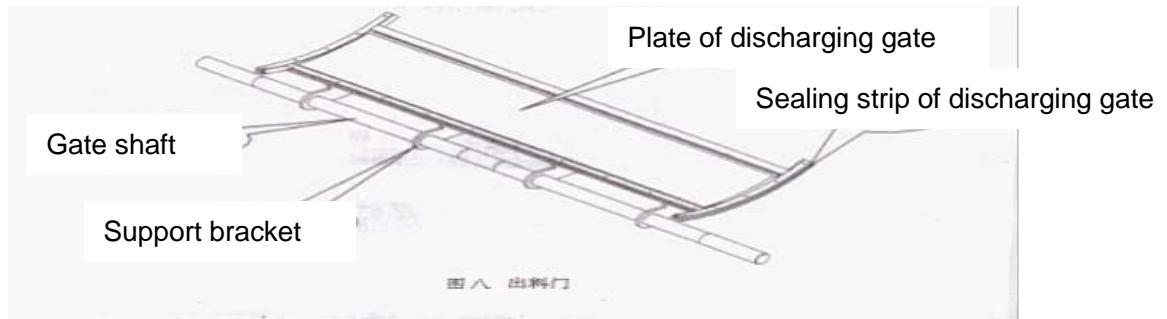
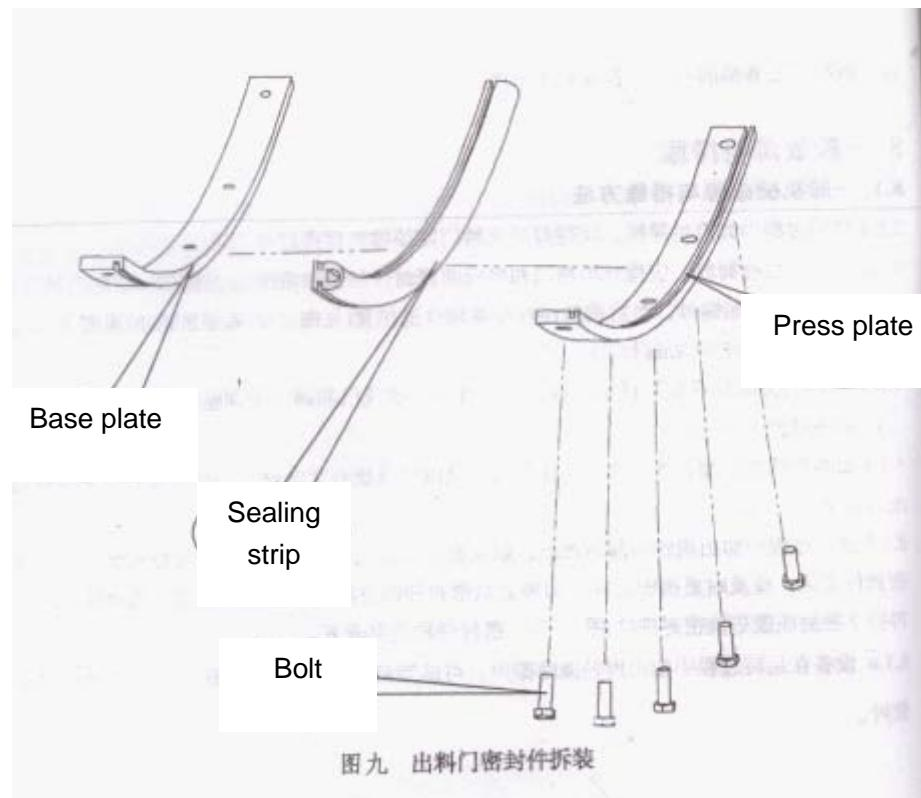

Fig. 8
Fig. 9
- 10.1.2 If material leakage occurs at the discharge gate, it is necessary to check the contacting condition of the discharge gate with the housing. If the discharge gate cannot be closed tightly, loosen the nuts on both ends of the connecting lever firstly, and then adjust the length of the connecting lever to a proper position (see Fig. 2); if it is caused by an aged seal strip (see Fig. 8), the seal strip should be replaced (see Fig. 9);